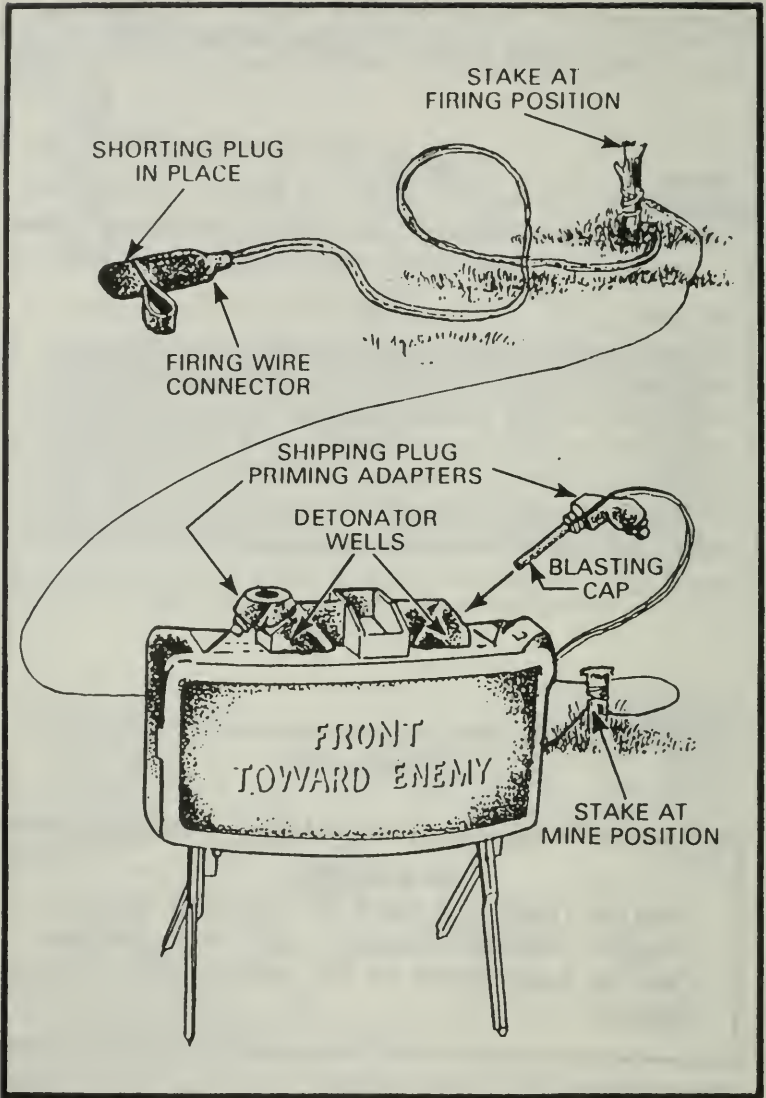

Figure 203. Arming the mine.
b. With the mine positioned and the firing wire laid out, unscrew one of the shipping plug priming adapters from the mine. Slide the slotted end of the shipping plug priming adapter onto the firing wire of the blasting cap between the crimped connections and the blasting cap. Pull the excess wire through the slotted end of the adapter until the top of the blasting cap is firmly seated in the bottom portion of the shipping plug priming adapter (Figure 203). Screw the adapter with blasting cap into the detonator well.